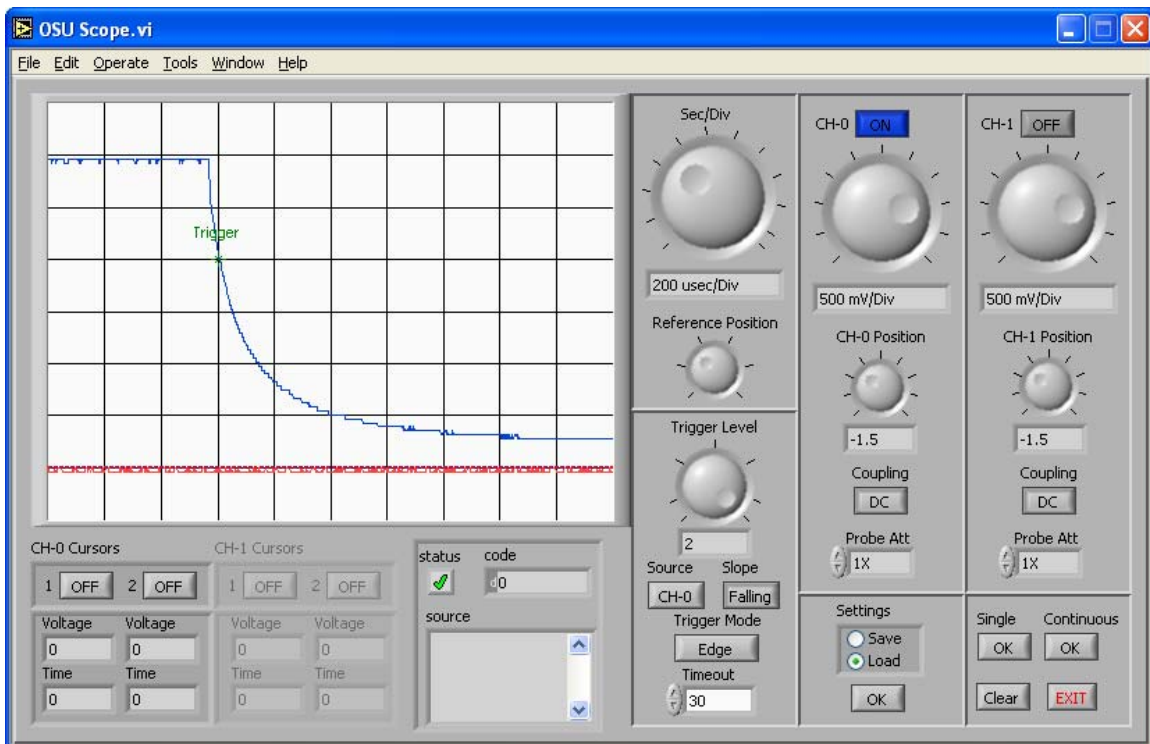

Figure 2. Transient Decay Graph.
3.2 Load the settings file called 'CameraB_Task2.sco'. Verify the settings are accurate compared to Figure 2.
3.4 Press the 'Single' button on the O-Scope, then press the black FLASH button. A trace similar to that of Figure 2 should immediately appear on the display screen.